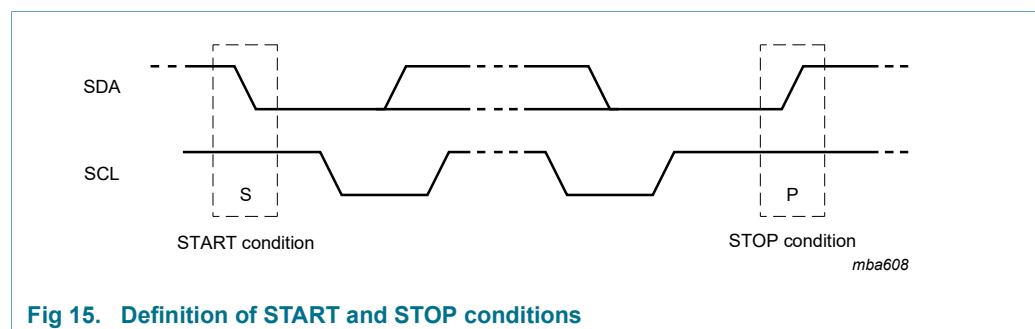

Fig 15. Definition of START and STOP conditions
Both data and clock lines remain HIGH when the bus is not busy. A HIGH-to-LOW transition of the data line while the clock is HIGH is defined as the START condition (S). A LOW-to-HIGH transition of the data line while the clock is HIGH is defined as the STOP condition (P) (see Figure 15).